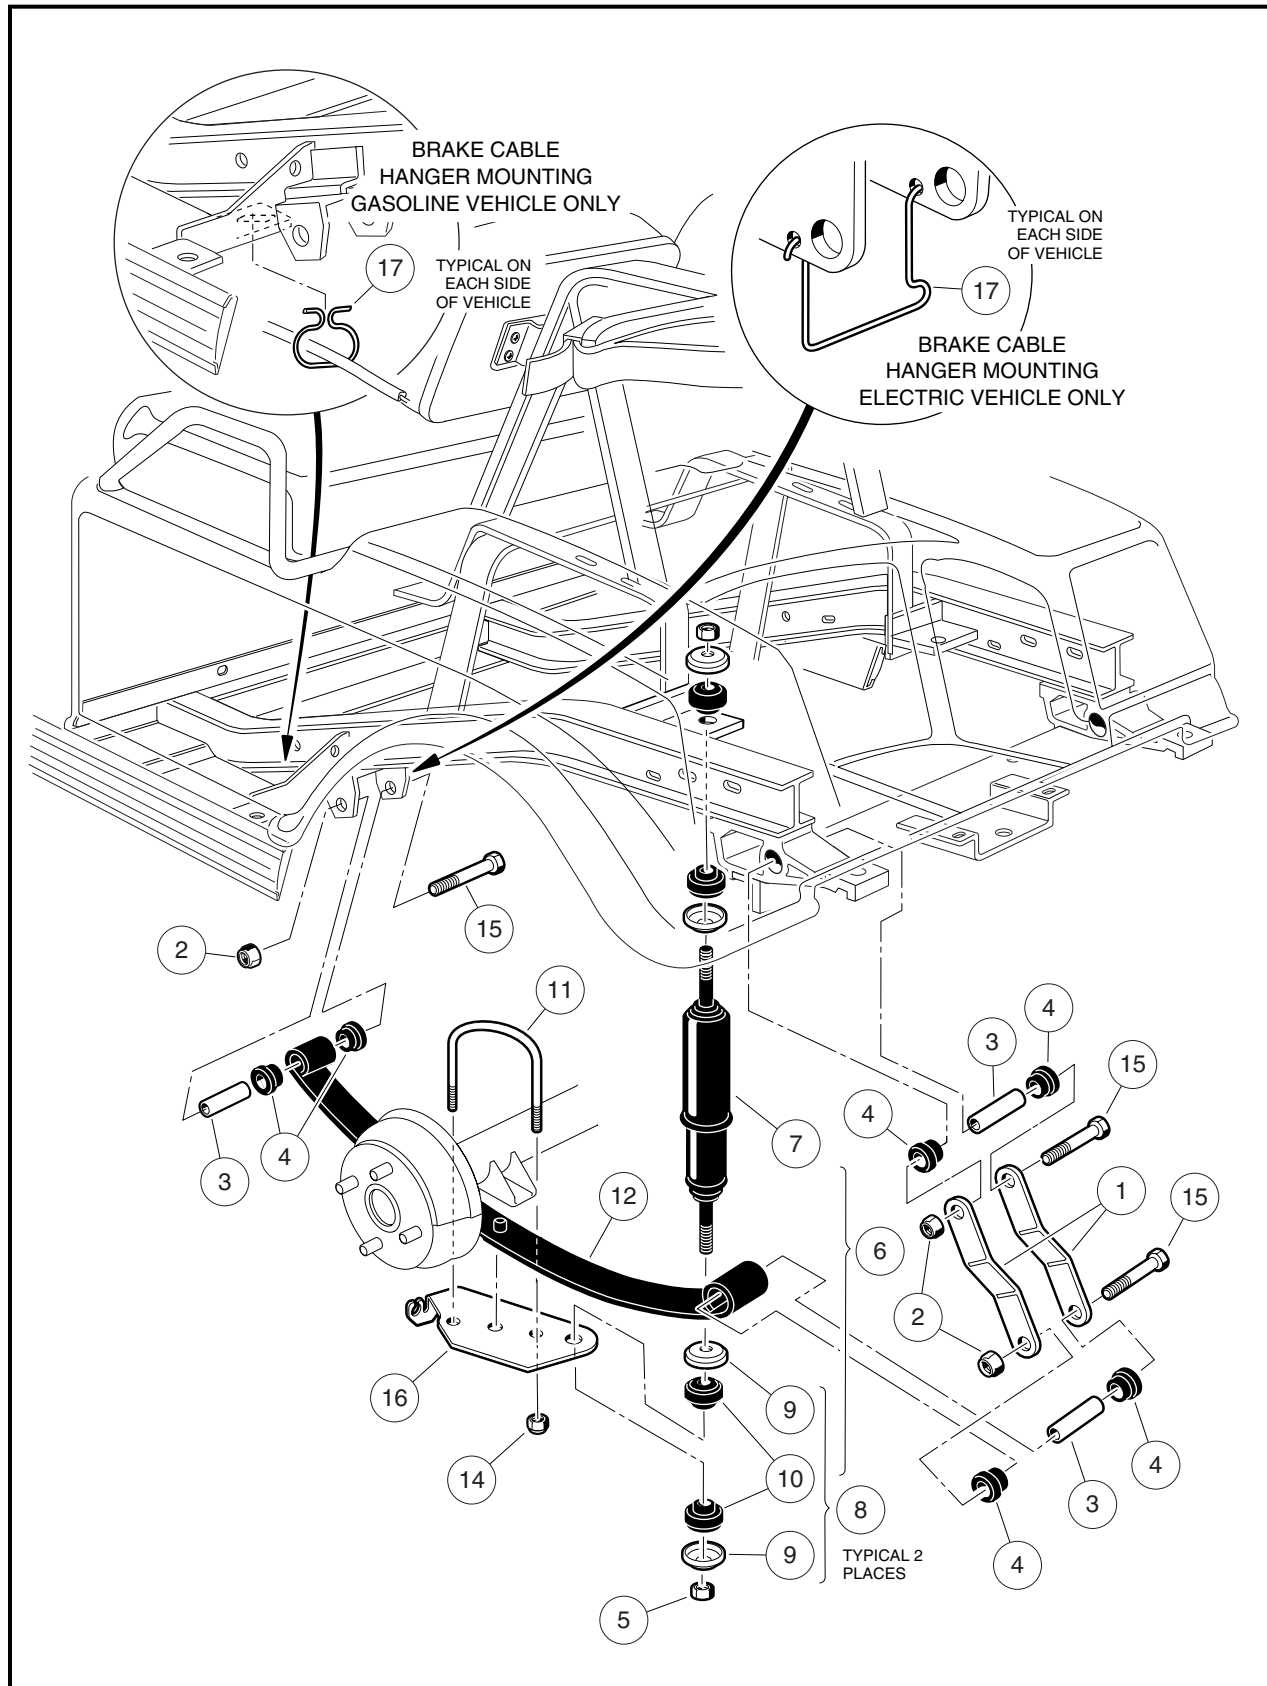
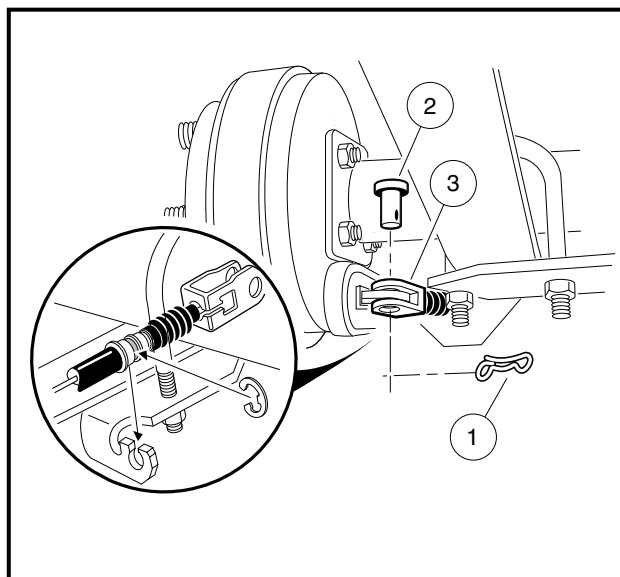

Figure 9-1 Rear Suspension Assembly and Mounting
Figure 9-3 Disconnect Brake Cable
1. Check shock absorbers (7) for damage or fluid leakage at the point where the shaft enters the shock absorber body. Replace damaged or leaking shock absorbers (**Figure 9-1, Page 9-2**).
2. To remove a shock absorber, remove the nut (5), cup washer (9) and rubber bushing (10) from the stem at the top of the shock absorber.
3. Remove the nut (5), cup washer (9), and rubber bushing (10) from lower mounting stem.
4. Remove the bow-tie pin (1) and the clevis pin (2) at the brake lever and brake cable connection and pull the clevis (3) away from the lever (**Figure 9-3, Page 9-3**). Detach the brake cable from the shock mount bracket (16) (**Figure 9-1, Page 9-2**).
5. Remove the nut (5), cup washer (9), and rubber bushing (10) from the lower mounting stem of the shock absorber.
6. Remove the nuts (14) and the U-bolt (11) securing the spring to the transaxle. Remove the shock mount bracket (16) and the U-bolt.
7. Remove the nut (2) and bolt (15) attaching the rear spring to the shackle (1).
8. Remove the nut (2) and bolt (15) attaching the front of the spring to the vehicle frame and remove the spring.
9. Inspect the bushings (4) and spacers (3) in the spring eyes and replace them if they are worn or damaged.
3. Tighten nylon lock nuts (2) on spring mounting bolts (15) to 15 ft-lb (20.3 N·m) **(Figure 9-1, Page 9-2).**